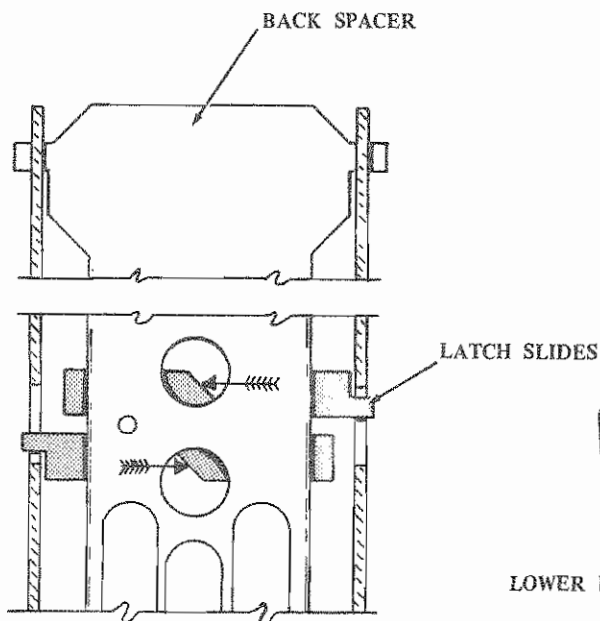

Figure 20
3. Release back spacer and turn it until parallel to sides of column. Back spacer will release as shown in Figure 20.
5. Release back spacer and turn spacer until parallel to sides of column. Back spacer will release as shown in Figure 20.
9. Refer to Loading Instructions "Cans" for loading and repositioning of back spacer. Back spacer will release as shown in Figure 20.